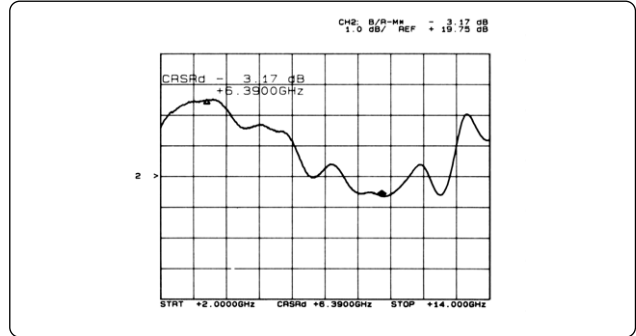

Figure 4. Example 8757A plot of amplifier gain vs. frequency
Small signal gain is the gain in the amplifier's linear region of operation. Figure 4 shows an example swept frequency gain measurement. Ratioing in this measurement removes frequency response and improves the effective source match. However, normalization is also required, even when ratioing, to remove tracking differences between the two arms of the power splitter and between the two detectors (B and R). This normalization is also described in the small signal gain measurement procedure.
10. To measure gain variation or “ripple” in this frequency range, use the cursor delta function. Press [**CURSOR**], select [MAX], then turn CURSOR D ON. Now select [MIN]. The active entry area now displays the total peak-to-peak variation in gain across the band (see Figure 4)